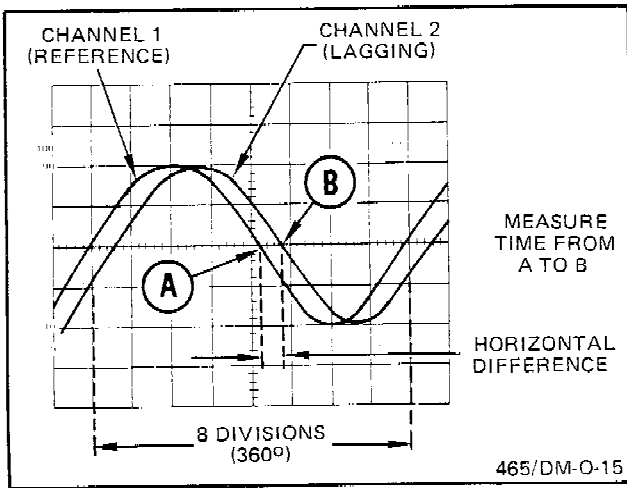

Fig. 2-11. Phase difference.
6. Turn the variable (X1-X10) SEC/DIV control until one cycle of the reference signal (Channel 1) occupies exactly eight divisions between the first and ninth graticule lines (see Fig. 2-11). Each division of the graticule represents 45° of the cycle (360° ÷ 8 divisions = 45°/division).
Assume a horizontal difference of 0.6 division with a sweep rate of 45°/division as shown in Fig. 2-11.